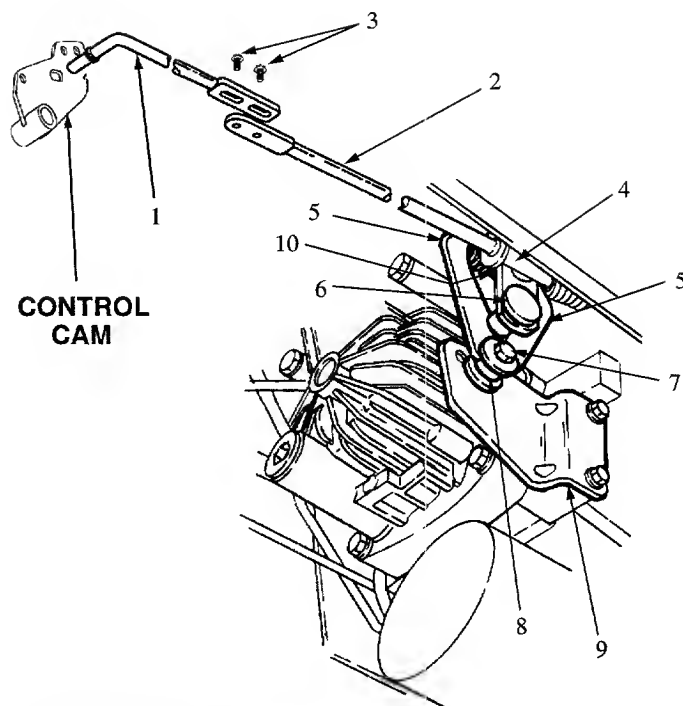

Figure 16. Model 2165 Shown.
Only the Model 2165 hydro transmission is pictured in Figure 16. However, the components referred to in the figure also apply for the Model 2160.
- a. Disconnect the rear control rod from the control arm by removing the hairpin cotter from the pivot sleeve (Refer to Figure 16).
- c. If wheel rotation continues, loosen the locknut securing the hex cap screw and centering spacer to the neutral bracket (See Figure 16).
Adjust the control rod (See Figure 16) as follows:
2. While making certain to not move the front control rod, control cam or control arm (See Figure 16), slide the rear control rod in the direction necessary to directly align the pivot sleeve pin with the appropriate hole (upper hole for 2160 - lower for 2165) of the control arm.